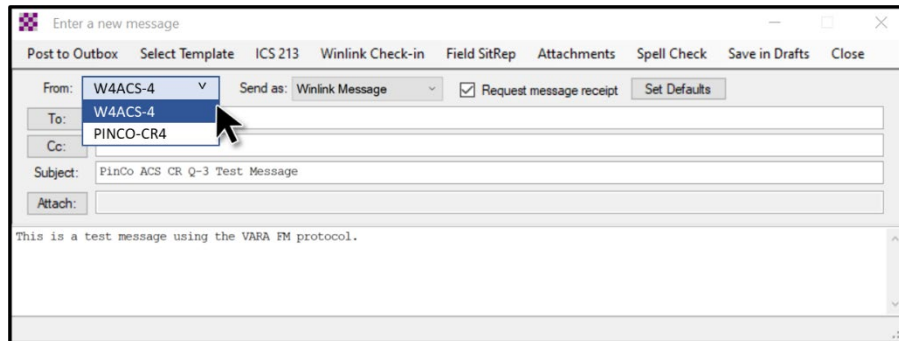

Figure 11. Winlink Call Sign Selection
- (1) From: Use the pull-down menu to select the **Winlink call sign** for the unit under test. Refer to Table III for call sign information and Figure 11 for call sign selection window location.
- (2) Send as: Winlink Message.
- (3) Request message receipt: Check this box.
- (4) To: W4ACS
- (5) Subject: PinCo ACS CR Q-3 Test Message
- (1) From: Use the pull-down menu to select the **Winlink Tactical Address** for the unit under test. Refer to Table III for Tactical Address information and Figure 11 for call sign selection window location.
- (4) To: PINCO-EOC
- (6) Message text: This is a test message using the Packet protocol and Command Runner Winlink Tactical Address.